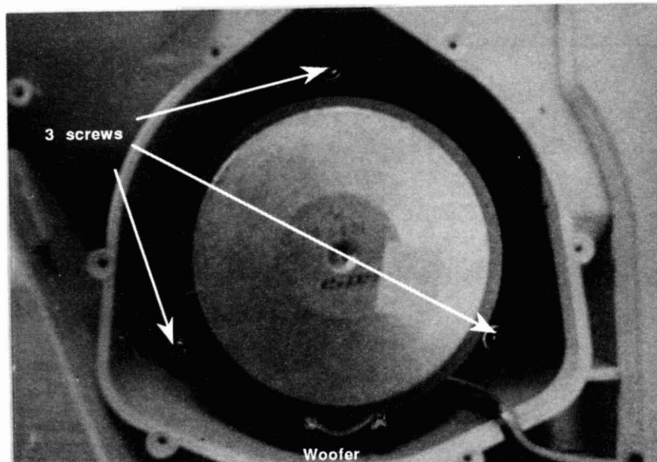

Figure 3
7. Woofer Removal (Figure 3)
8. Woofer Replacement (Figure 3)